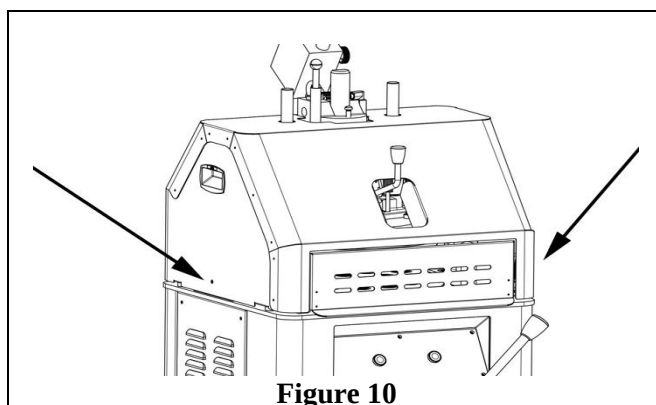

Figure 10
- 2) remove the upper casing, by removing the screws on both sides first (**Figure 10**);